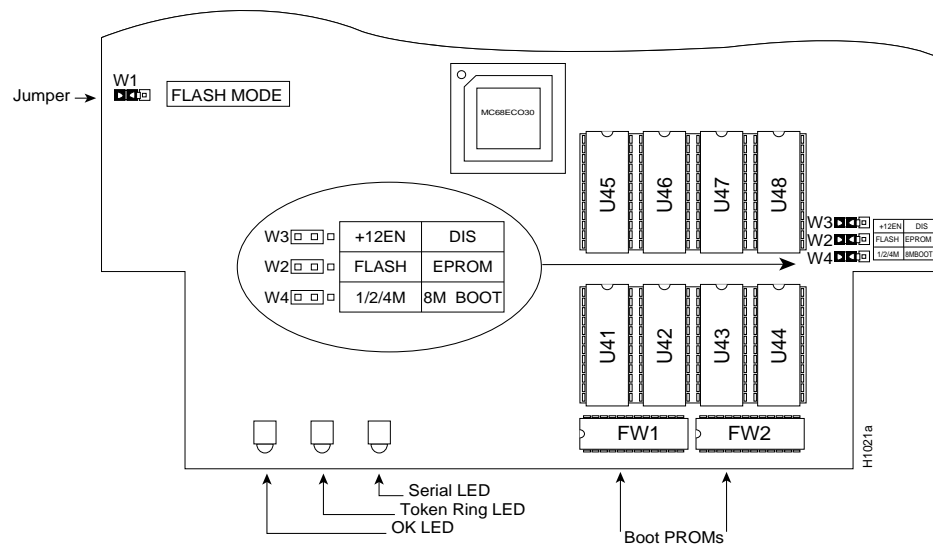
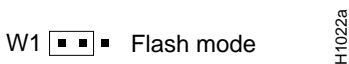
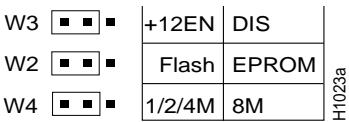

Figure 4 Flash EPROM Jumper Settings for the IGS/TR
Figure 5 Flash EPROM Jumper Setting for Jumper W1
Figure 6 Jumper Designations for IGS/TR EPROMs
- Step 1:** To enable Flash memory, move the jumpers at jumper locations W1, W2, W3, and W4 to the two left jumper pins on each (see Figure 4).
Figure 5 shows an expanded view of jumper W1 properly set for Flash, using the same orientation as Figure 4.
Figure 6 shows an expanded view of jumpers W2, W3, and W4 set for Flash EPROM, using the same orientation as Figure 4. Note that the jumper ordering (first W3, then W2, then W4) is not intuitive.